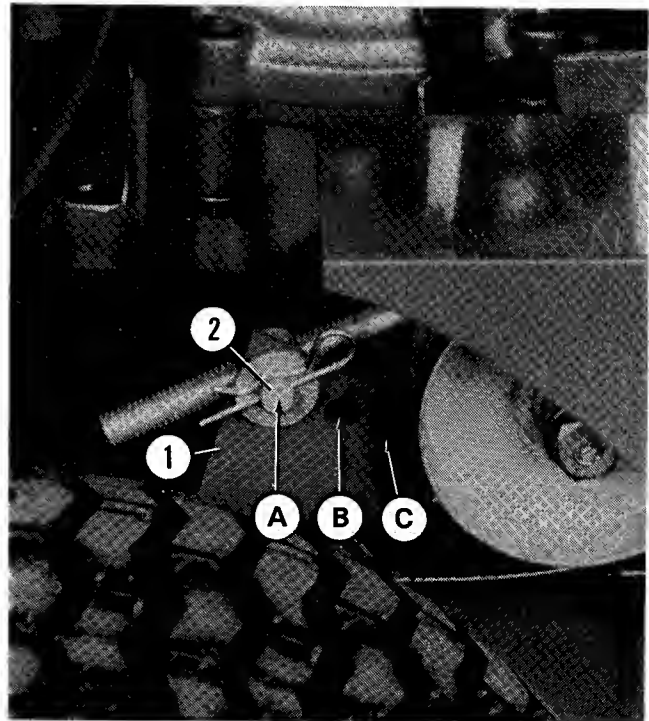

Figure 17 Brake Plate Swivel
### Ground Speed Control (Fig. 17)
- B. Disconnect the swivel from the brake adjustment plate and position it as directed in Fig. 14 and shown in Fig. 17.